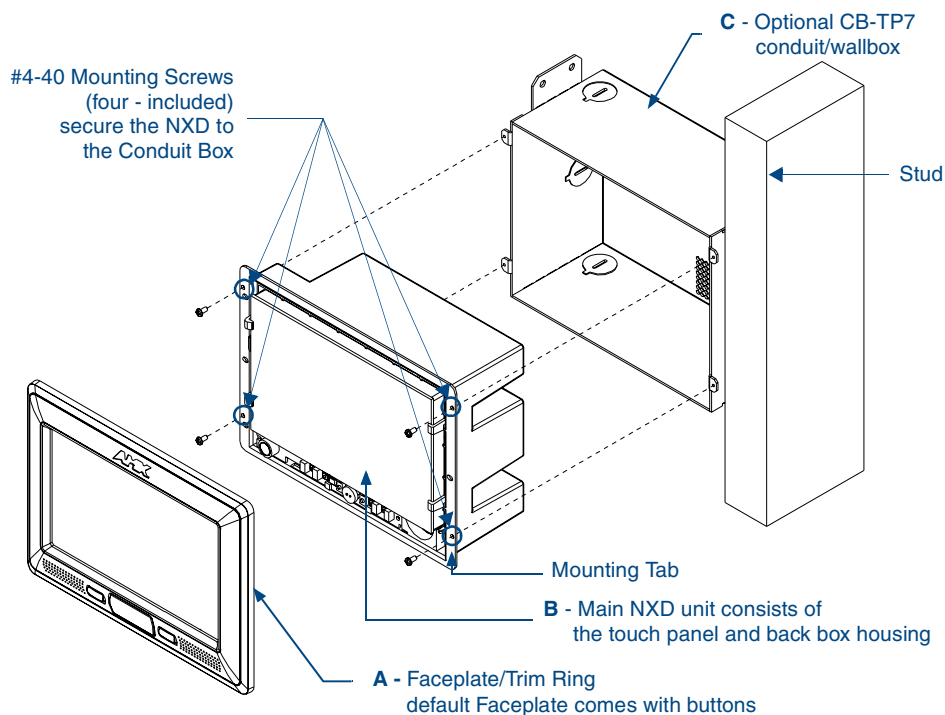

FIG. 12 NXD-700Vi panel installation into a CB-TP7 (pre-wall construction)
- Remove the Faceplate/bezel (A in FIG. 12) from the main NXD unit (B in FIG. 12) by gripping the faceplate and pulling with gentle outward force.
6. Carefully slide the main NXD-700Vi unit (**B** in FIG. 12) into the conduit box, so that all Mounting Tabs lie flush against the conduit box (**C** in FIG. 12).
8. Place the Faceplate/Trim Ring assembly (**A** in FIG. 12) back onto the main NXD unit (**B** in FIG. 12). *Make sure to align the Microphone, Light, and PIR Motion sensor locations to their respective openings on the front faceplate/bezel.*